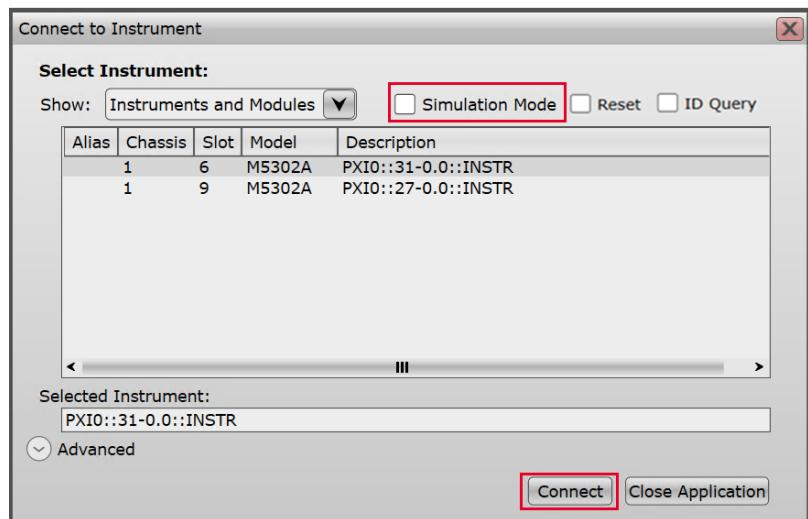

Figure 37 Connect to Instrument with “Simulation Mode” disabled
- ‘Simulation mode’ disabled—This is the active mode of SFP operation and is available when the **Simulation Mode** check box is manually cleared. The **Simulate** button is replaced with the **Connect** button on the **Connect to Instrument** window, as shown in Figure 37. In this mode, only the active modules are displayed along with the respective chassis number, slot number and VISA address.